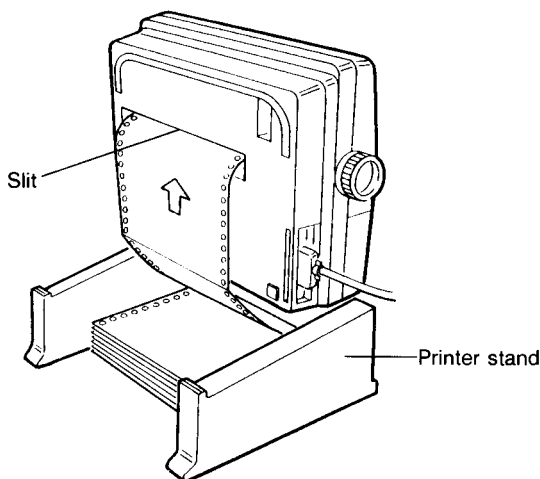

Figure 16. Inserting Paper into the Slit on the Bottom of the Printer.
4. Insert the paper into the slit on the bottom of the printer. You might find this easier to do if you set the printer upright as shown in Figure 16.